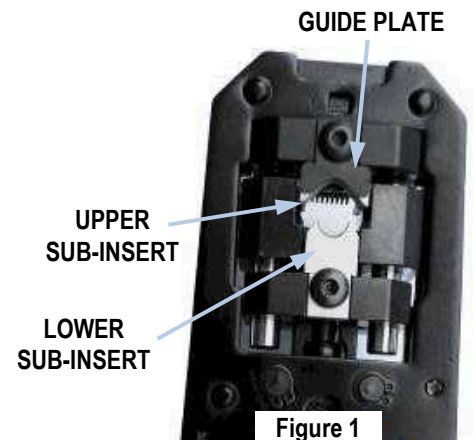

Figure 1
4. After installation of the inserts reattach the guide plate. See Figure 1. Failing to do so may influence normal tool function.